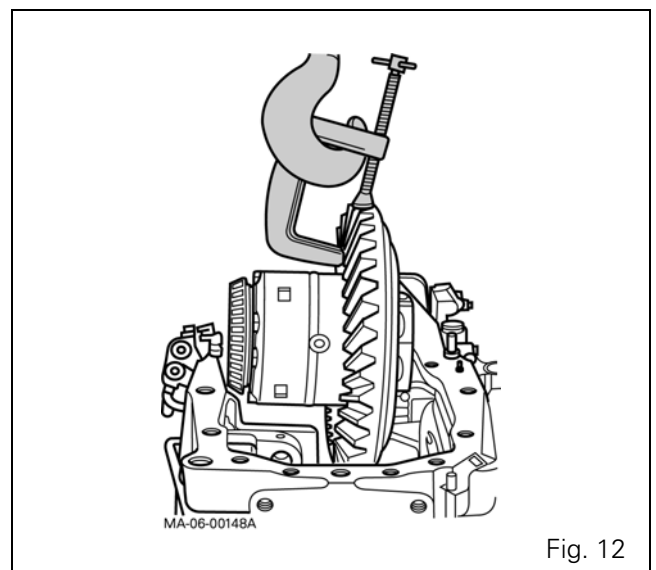

Fig. 12
33. Carefully place a sling on the differential assembly using a clamp (Fig. 12).
34. Before working on the screws (56) and the nut (42). Loosen the screws (56) and nut (42) alternately to gradually release the spring (6).
35. Remove the flange (9), spring (6), coupler (7) and washer (11).
36. Take out the screws (26).
37. Take off the flange (25).
38. Take out the differential assembly from the centre housing (Fig. 12).